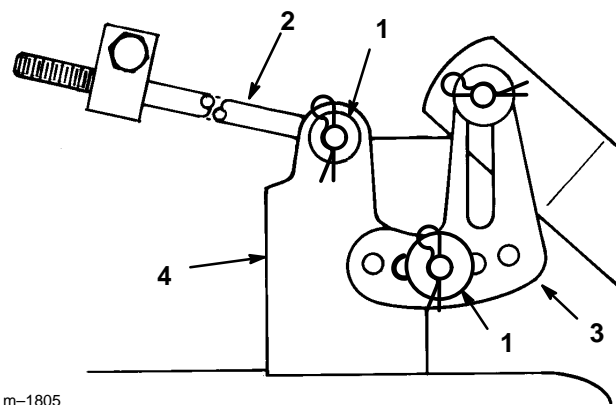

Figure 40
10. Remove the hair pin cotter and washer from the end of the long rod (Fig. 40). Slide the rod out of the mower mount.
11. Remove the hair pin cotter and washer at the mower leveling bracket (Fig. 40). Slide the bracket off the mounting pin. Re-install the washer and hairpin cotter for storage.